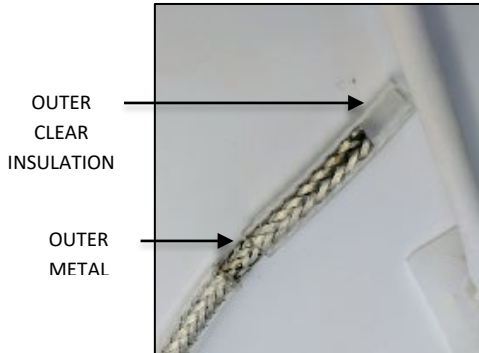
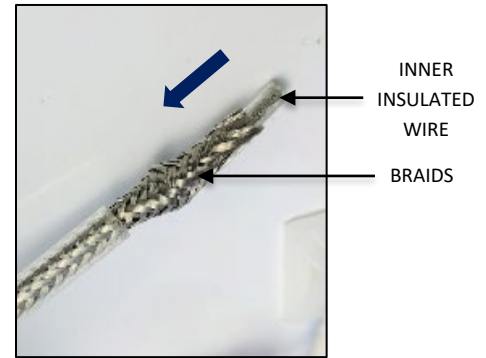

FIG. 20
FIG. 21
- Strip off 1.00" of outer clear insulation exposing the outer metal braiding as shown in FIG. 20 below. **Be careful not to cut or damage the outer metal braiding.** Gently push braiding down to loosen the individual braids exposing the inner insulated wire as shown in FIG. 21 below.